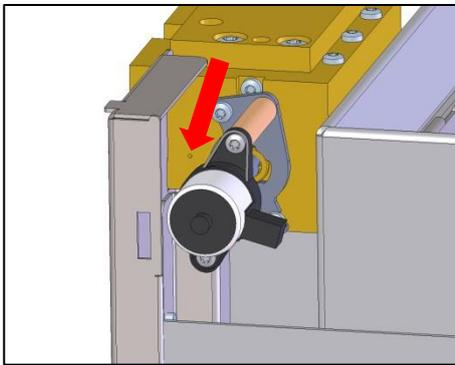

Fig. 52: Open top up level
- Slowly add tap water in the amount computed through the side opening near the switch valve (→ Fig. 52) using a nozzle.